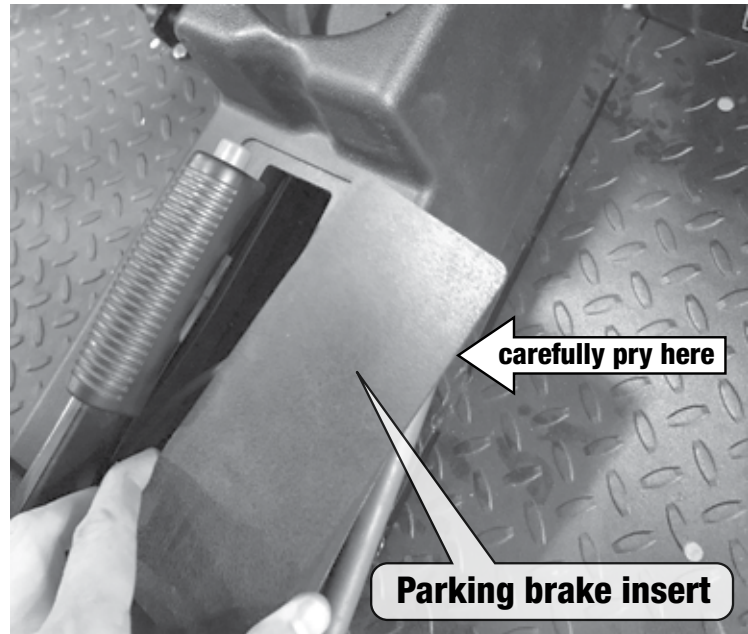

fig. 2
- 3 Using the flat head screw driver or pry tool, carefully remove the parking brake insert in the center console as shown in **figure 2**.